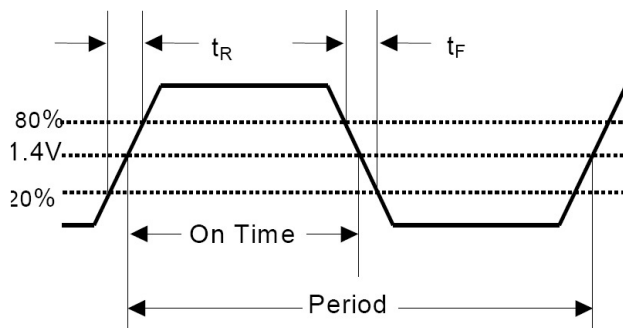
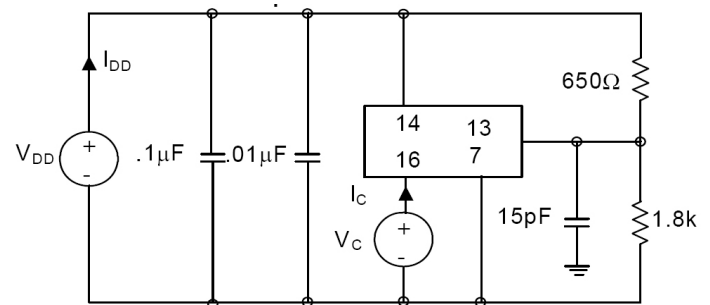

Figure 2. Output Waveform
Figure 3. OUT1, OUT2, RCLK, RDATA Test Conditions (25 $\pm$ 5°C)
2. Figure 2 defines these parameters. Figure 3 illustrates the equivalent five gate TTL load and operating conditions under which these parameters are tested and specified. Loads greater than 15 pF will adversely effect rise/fall time as well as symmetry.